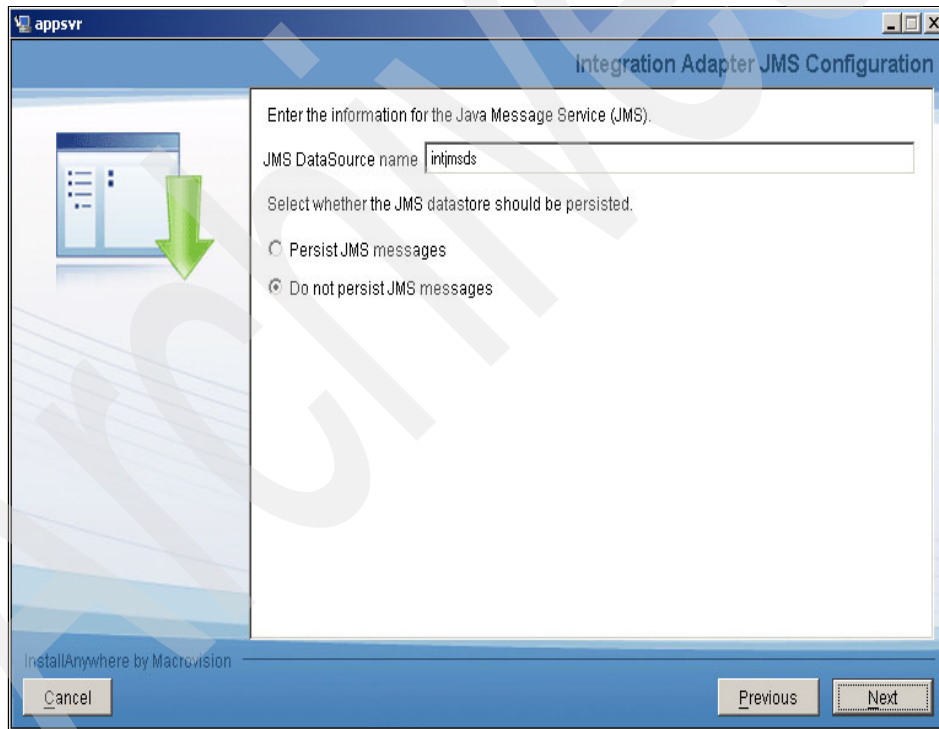

Figure 5-20 Integration Adapter JMS Configuration
15. From the Integration Adapter JMS Configuration panel (see Figure 5-20), enter the following information, and then click **Next**.